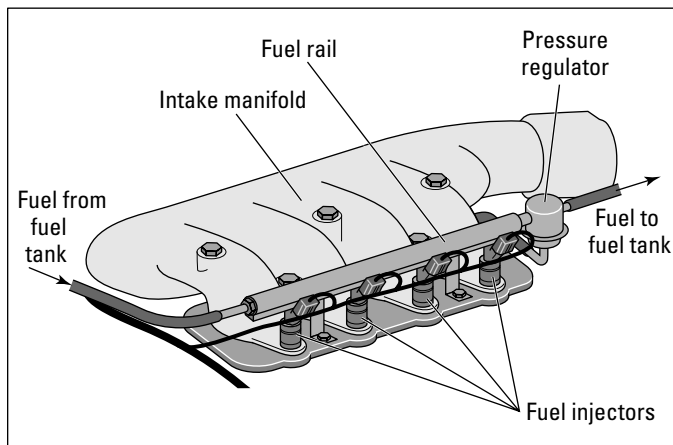

Figure 7-6: Fuel flows through the fuel rail to the injectors.
1. An electrical *fuel pump* pumps fuel from the *fuel tank* through a *fuel filter* to the *fuel rail assembly*, which carries fuel under pressure to the *fuel injectors* (see Figure 7-6).